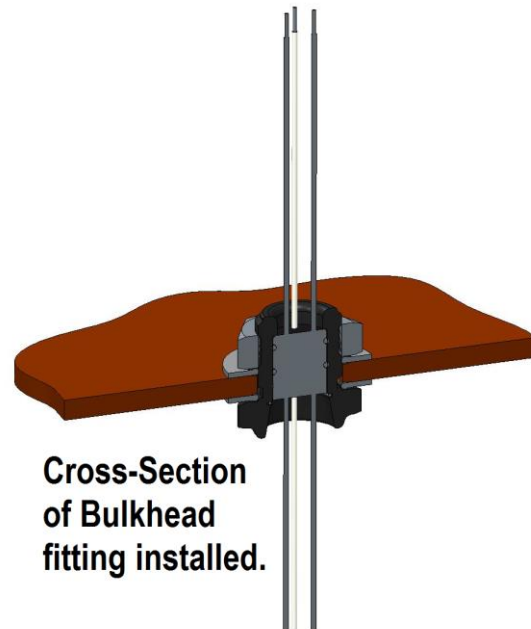

Figure 2
7. Hand-tighten the nut from the outside. Torque to 60-70 in./lbs. (**Figure 2**).